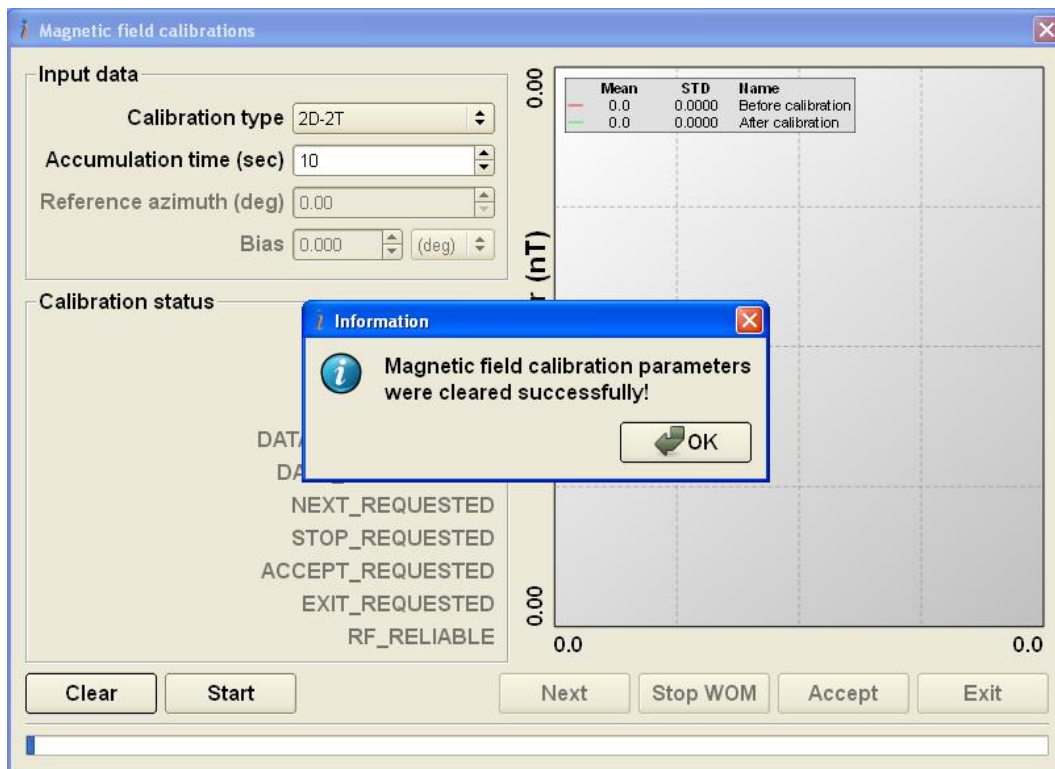

Fig. 10.14
To remove results of magnetometers field calibration from the AHRS memory, follow Step 1, Step 2 from the item 10.1. Then select «**Mag Field Calibration**» item from the «**Plugins**» menu and click the «**Clear**» button in opened window (see Fig. 8.3). Soft and hard iron calibration parameters will be removed from AHRS memory. The window with message «**Magnetic field calibration parameters were cleared successfully!**» appears over above window (see Fig. 10.14). Click «**OK**» and close calibration window.